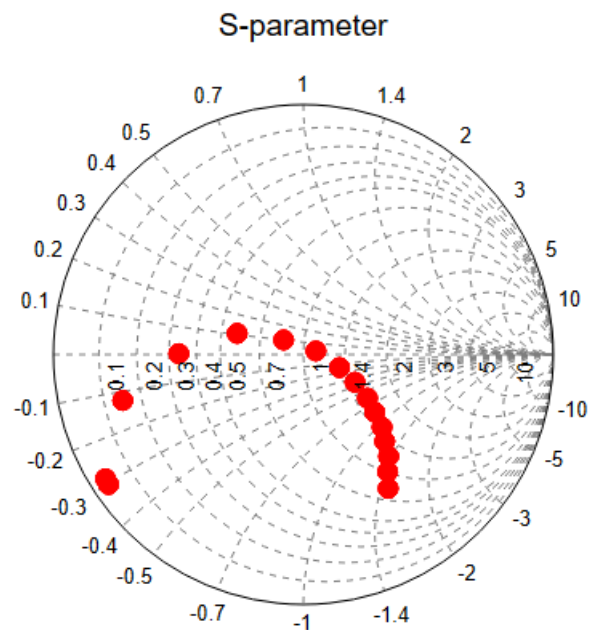

Figure 138: Smith chart showing the reflection coefficient for each feed pin position.
- a) The port is optimally matched when the magnitude of the reflection coefficient is as small as possible or the input impedance is equal to 50 Ω . This condition is roughly met at iteration 6, see Figure 138. This corresponds to a feed position given by